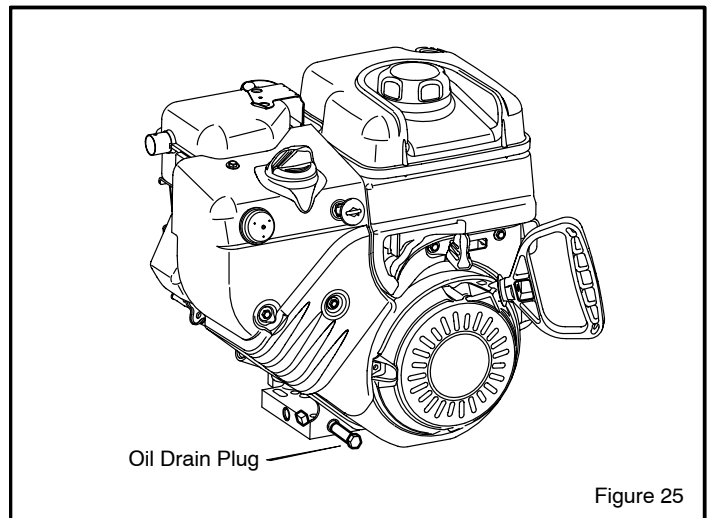

Figure 25
**To Drain Oil** - Position snowthrower so that the oil drain plug is lowest point on engine. Remove oil drain plug and oil fill cap and drain oil into a suitable container (Figure 25).